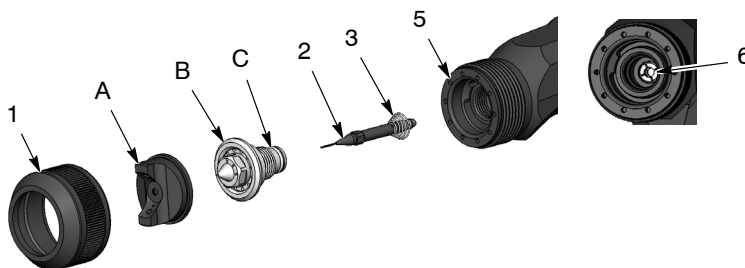

Figure 7-2 Air Cap, Fluid Tip, and Needle Replacement
3. See Figure 7-2. Unscrew the retaining ring (1) and remove it and the air cap (A) from the extension (5).
4. Pull the trigger and unscrew the fluid tip (B) from the extension.
5. Grasp the needle (2) with your fingers and pull it and the contact spring (3) out of the packing cartridge (6). If necessary, hook the bent needle-nose plier jaws under the corners of the needle flats to remove it. Do not scratch the needle.
9. Install the air cap (A) into the retaining ring and thread the retaining ring (1) onto the extension. Make sure the air cap is centered on the fluid tip. Hold the air cap in the desired position and tighten the retaining ring until it is snug. Do not overtighten the retaining ring.